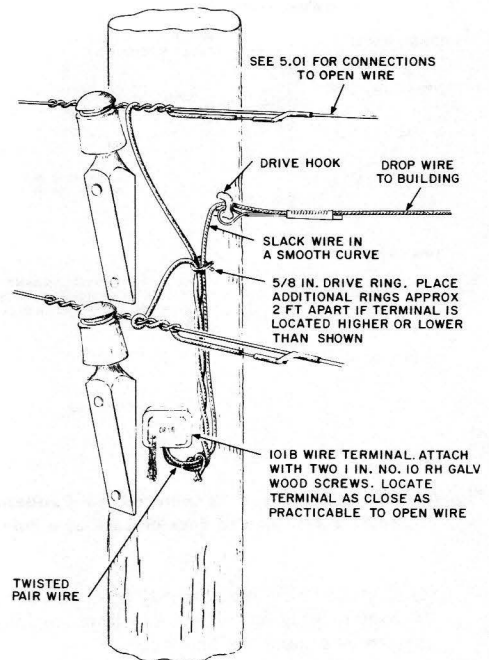

Fig. 5—Where Pole Brackets are Located on Same Side of Pole
- 4.14** The wiring arrangements on line poles equipped with wooden pole brackets are shown in Fig. 5.